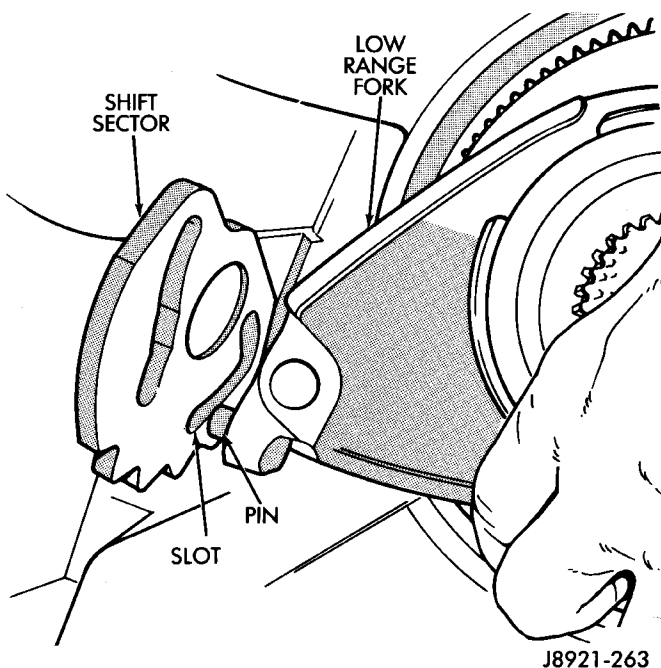

Fig. 70 Positioning Low Range Fork
(5) Position low range fork and hub in case. Be sure low range fork pin is engaged in shift sector slot (Fig. 70).